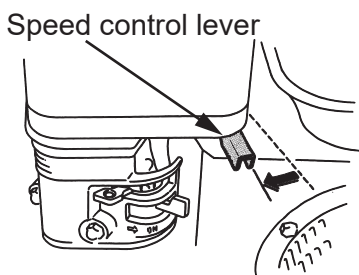

Fig. 15
3. Open the speed control lever half. (Fig. 15)
1. If you open the speed control lever at a stroke, this machine starts vibration and moves forward. If you open it slowly, the clutch may slip, so open the speed control lever at a stroke without hesitation. (Refer to Fig.15 on page 13.)